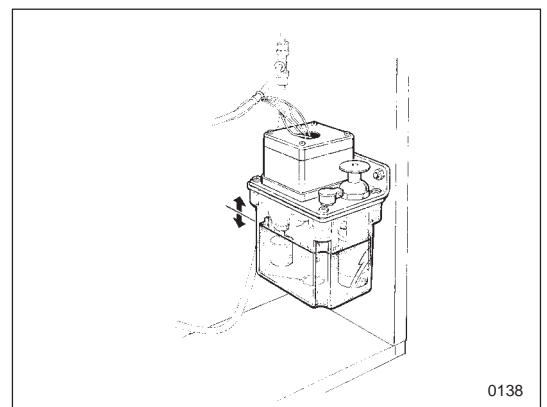

Figure 4.
8. If the machine is equipped with a device for lubrication of shaft seals: check the oil level in the container, figure 4. If the level is too low, the machine will stop. If necessary, add more oil (Shell Tellus Oil 46 or equivalent).
Fig. 4 Relay K9 controls the switching of low speed for the spin motor, and relay K10 and K11 control the switching of high speed. The following conditions must be met for any of these relays to be energised: